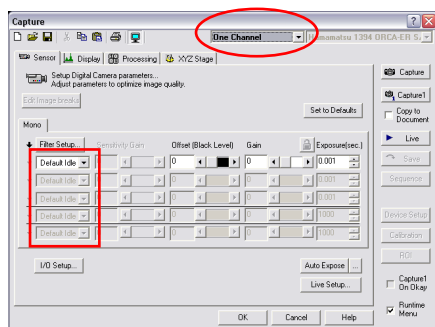
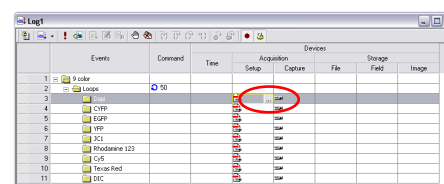

fig.7
fig.6
5. Setup acquisition (**fig.6 & 7**). Under the **Setup** column, double click on the cell across each fluorochrome, a setup capture icon appears in the cells. Click the icon with the three dots (...), see figure 6. The capture window appears. Set the capture window (**fig.7**) to monochrome, and under filter setup select the filters for your fluorescence image. For example, for GFP select the GFP filter from the **Filter Setup** drop-down list. Set the correct exposure by clicking **Auto Exposure**. Click **OK**. Repeat the same step for the additional fluorochromes. Under the **Capture** column, double click on the cells across the camera setup icon, a camera icon appears (**fig.7**). This icon activates the camera.